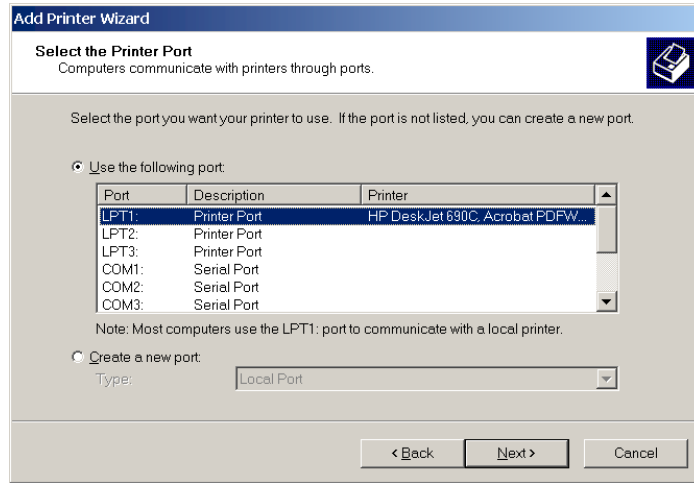

Figure 3, Printer Port
- The third page of the “**ADD PRINTER WIZARD**” will be displayed as shown in Figure 3. Click on “**Use the following port**”. Next, scroll down through the list of available ports until “**USB001**” is highlighted. Then click on **<NEXT>** to continue